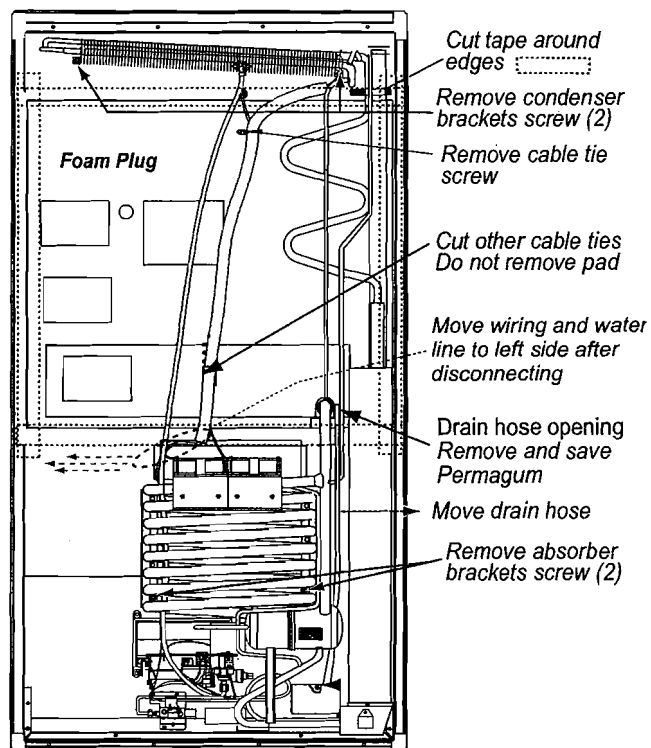

Figure 11. Components on back of refrigerator.
- Loosen the upper cable tie screw using a 1/4 inch nut driver. Figure 11 shows the approximate location of upper cable tie screw.
- Cut the lower cable ties. Leave the cable tie pad attached to the backing. Figure 11 shows the approximate location of the lower cable ties and pad.
- Cut the tape along all four edges of cooling system foam plug backing. See Figure 11.
- Remove the Permagem sealer from drain hose opening and save for reinstallation. Figure 11 shows the location of brackets' screw.
- Remove the absorber brackets' screw and condenser brackets' screw using a 5/16 inch nut driver. Figure 11 shows the location of brackets' screw.